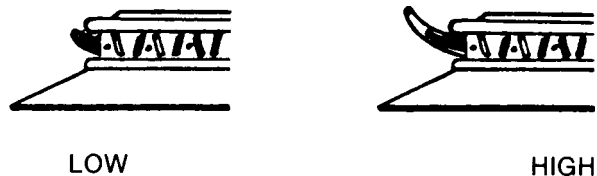

Figure 15
Remove four (4) top burners by removing the mounting screws and lifting out of bracket. Then turn down the orifice hoods onto the pins being careful not to drive pin into the valve or to distort the hole through the center of the pin. Reinstall the top burners and mounting screws. (See Figure 15.)